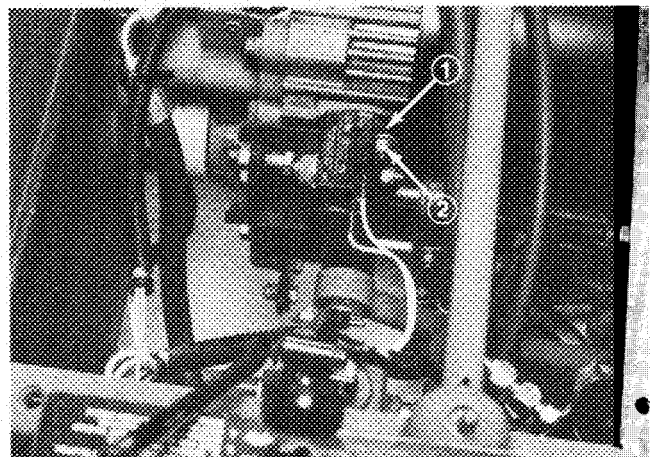

Figure 41
4. Loosen two locknuts securing pump plate so plate is free to move (Fig. 41).
5. Start engine and rotate pump plate (Fig. 41) in either direction until wheel ceases rotation.
1. Pump plate 2. Locknut (2)
6. Stop engine and tighten locknuts to secure pump plate (Fig. 41).